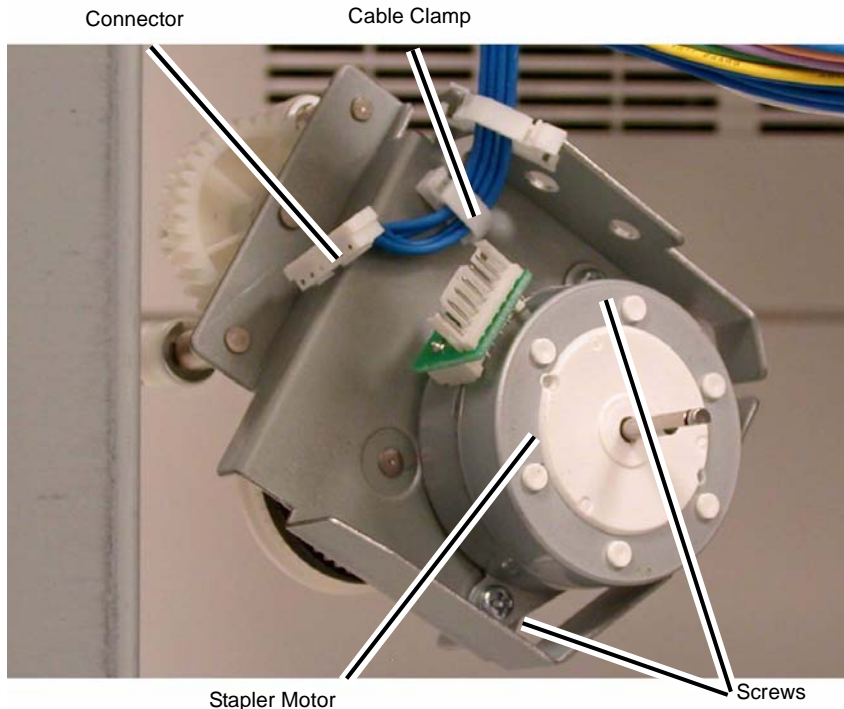

Figure 3 Removing the Stapler Motor
6. Remove the Stapler Motor (Figure 3).
- c. Remove the Screws (2).